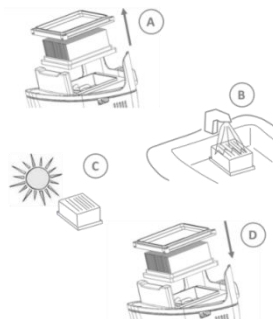

Figure 10
- j. See Figure 10 to wash filter. Follow the instructions from A – D.